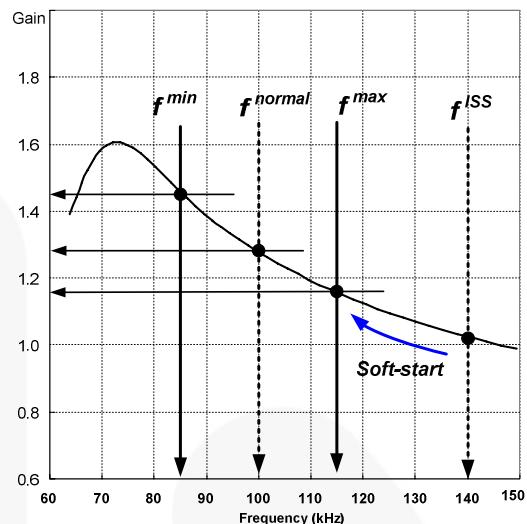
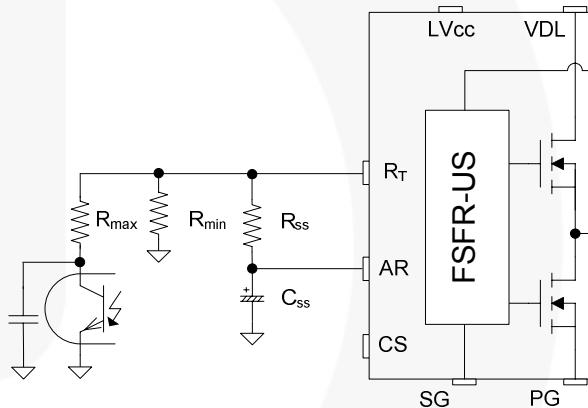
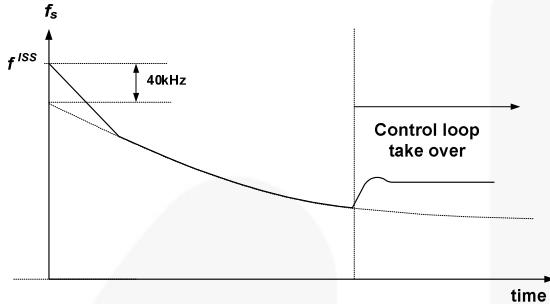

Figure 17. Resonant Converter Typical Gain Curve
Figure 18. Frequency Control Circuit
Figure 19. Frequency Sweeping of Soft-Start
3. Frequency Setting: Figure 17 shows the typical voltage gain curve of a resonant converter, where the gain is inversely proportional to the switching frequency in the ZVS region. The output voltage can be regulated by modulating the switching frequency. Figure 18 shows the typical circuit configuration for the R_T pin, where the opto-coupler transistor is connected to the R_T pin to modulate the switching frequency.
To prevent excessive inrush current and overshoot of output voltage during startup, increase the voltage gain of the resonant converter progressively. Since the voltage gain of the resonant converter is inversely proportional to the switching frequency, the soft-start is implemented by sweeping down the switching frequency from an initial high frequency (f^{SS}) until the output voltage is established. The soft-start circuit is made by connecting R-C series network on the R_T pin, as shown in Figure 18. FSFR-US series also has an internal soft-start for 3ms to reduce the current overshoot during the initial cycles, which adds 40kHz to the initial frequency of the external soft-start circuit, as shown in Figure 19. The initial frequency of the soft-start is given as: